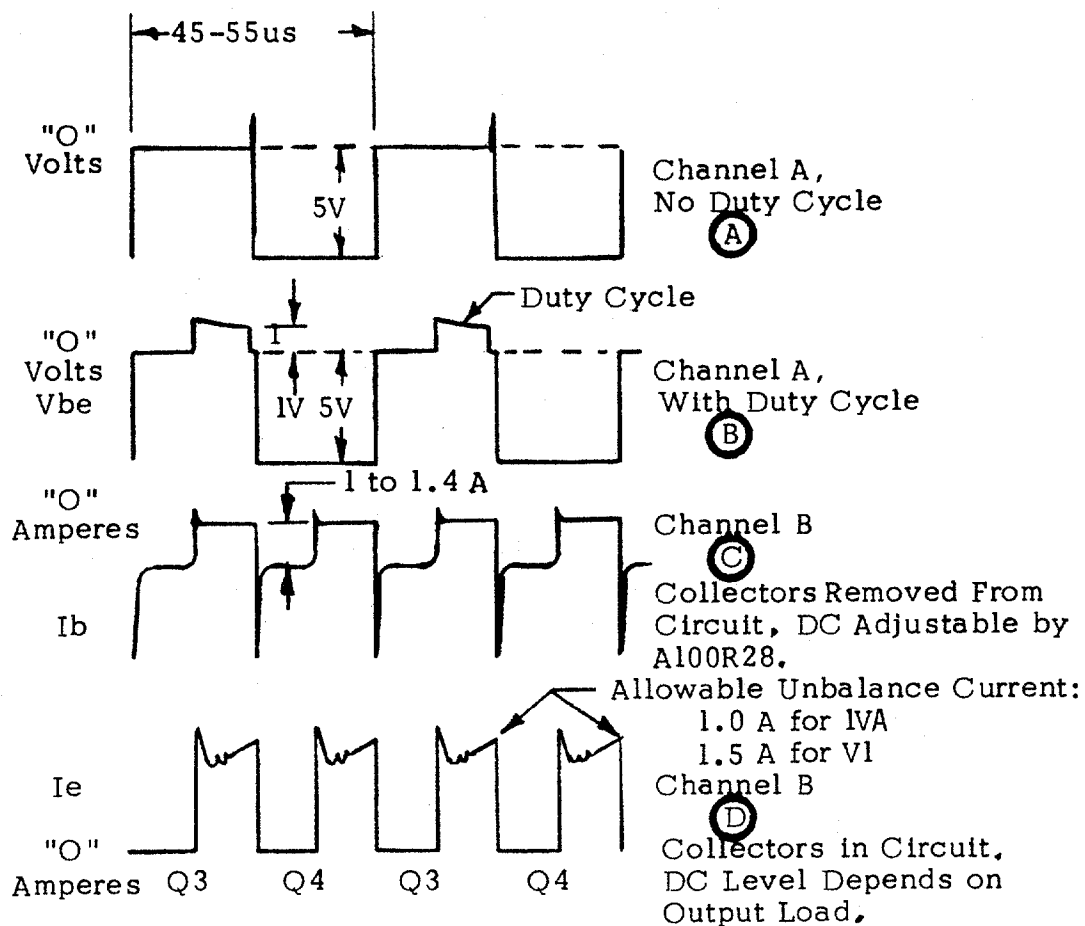

Figure 5-2 Switching Transistor Waveforms
2. Connect the VOM, set to the R X 100 scale, positive lead to the primary terminal TB1-2 (+) to TB2-5 (-) for Module IVA, or TB4-1 (+) to TB4-8 (-) for Module VI (Figure 5-2), noting the capacitor charging effect.
7. Place line power to ON. The unit should be working under deep current limiting mode. Check the following: (See waveform pattern "A", Figure 5-2).
8. Slowly adjust A100R28 CW. On the oscilloscope, the presence of a full duty cycle will be observed. (See waveform patterns "B" and "C", Figure 5-2). If A100R28 has no control over the duty cycle, check CR18/CR19 or C10. For resolution of the duty cycle, shunt R33 and C11 with a 100K resistor to reduce the amplifier gain.
7. Apply nominal input power and turn A100R28 slowly CW. The output voltage should increase and the current waveform on oscilloscope channel B should appear as in pattern "D" of Figure 5-2.
8. Gradually apply full rated load current. Note the main conducting portion of any two adjacent emitter current waveforms as indicated in pattern "D" of Figure 5-2.